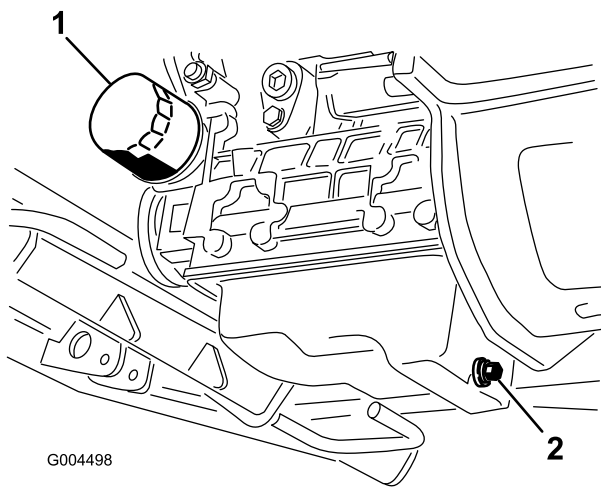

Figure 45
3. Set a drain pan under the oil pan and in line with the drain plug (Figure 45).
6. Remove and replace the oil filter (Figure 45).